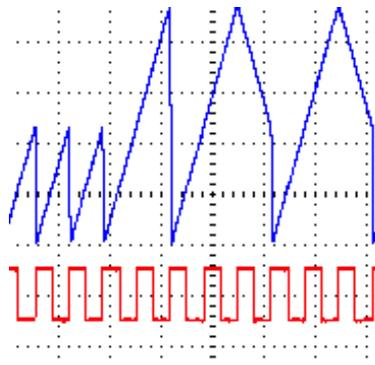

Figure 3b: QNT trigger with Cycle on and Div/Mult at /4
- **Re-phasing with QNT:** If Div/Mult is set to $/n$ (dividing), and Cycle button is on, then hitting a trigger into QNT will re-start (re-phase) the envelope on the next incoming ping clock. This can be useful for multi-phase outputs (e.g. Quadrature patch). If you want the envelope to run freely without re-phasing, just use one or the other (but not both QNT and Cycle), or don't divide the ping. See *Figures 3b and 3c*.